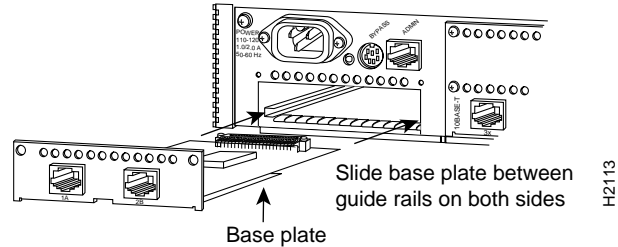

Figure 4 Installing the A/B Port Card
Step 3 Slide the port card into the slot in the concentrator. Make sure the metal base plate on the card slides under the guides in the concentrator. (See Figure 4.)